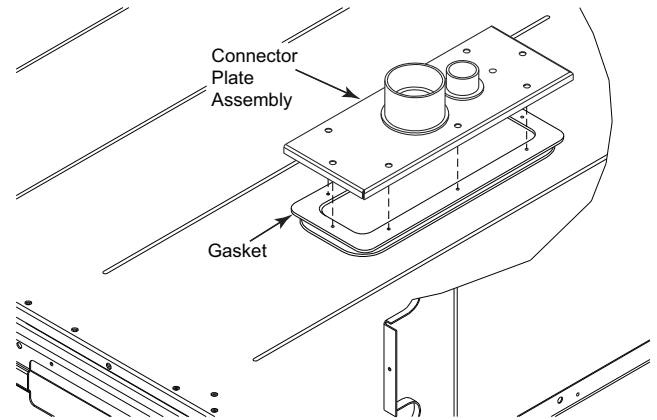

Fig. 32 — Completing Installation of Thru-the-Base Option
3. Place the gasket over the embossed area in the basepan, aligning the holes in the gasket to the holes in the basepan. See Fig. 32.